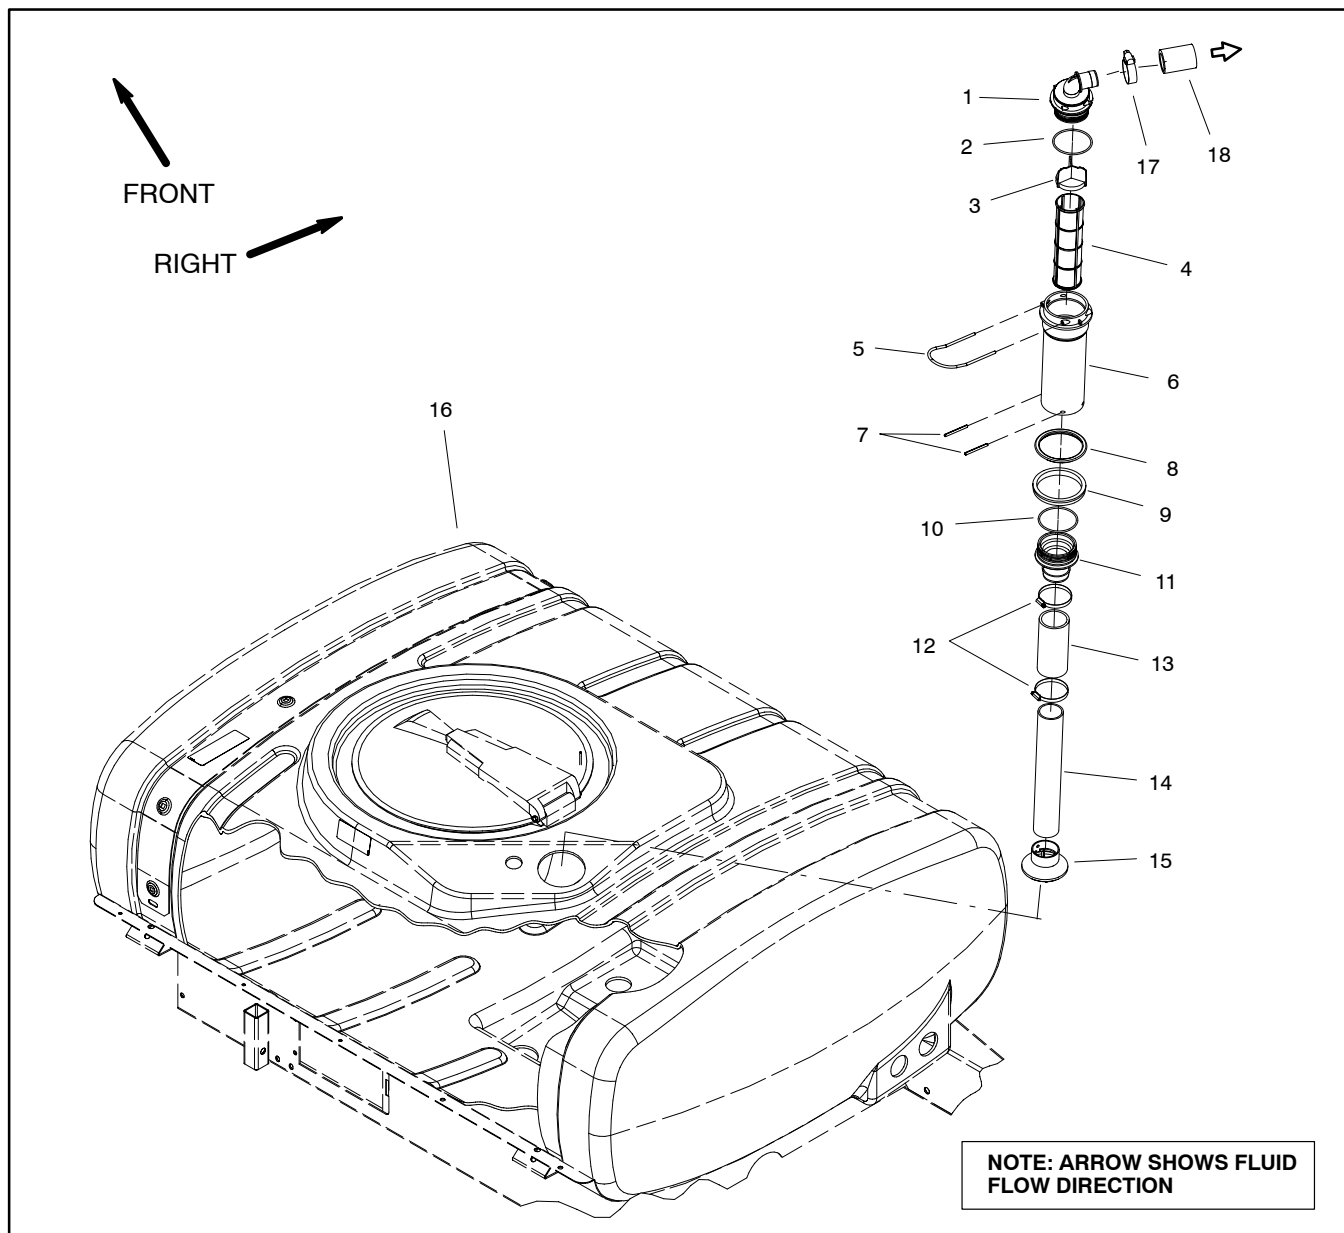

Figure 35
Removal (Fig. 35)
4. Remove suction tube assembly from spray tank and disassemble tube using Figure 35 as a guide. Discard all removed o-rings and gaskets.
Assembly (Fig. 35)
1. Assemble and install suction tube assembly using Figure 35 as a guide. Replace all removed o-rings and gaskets.